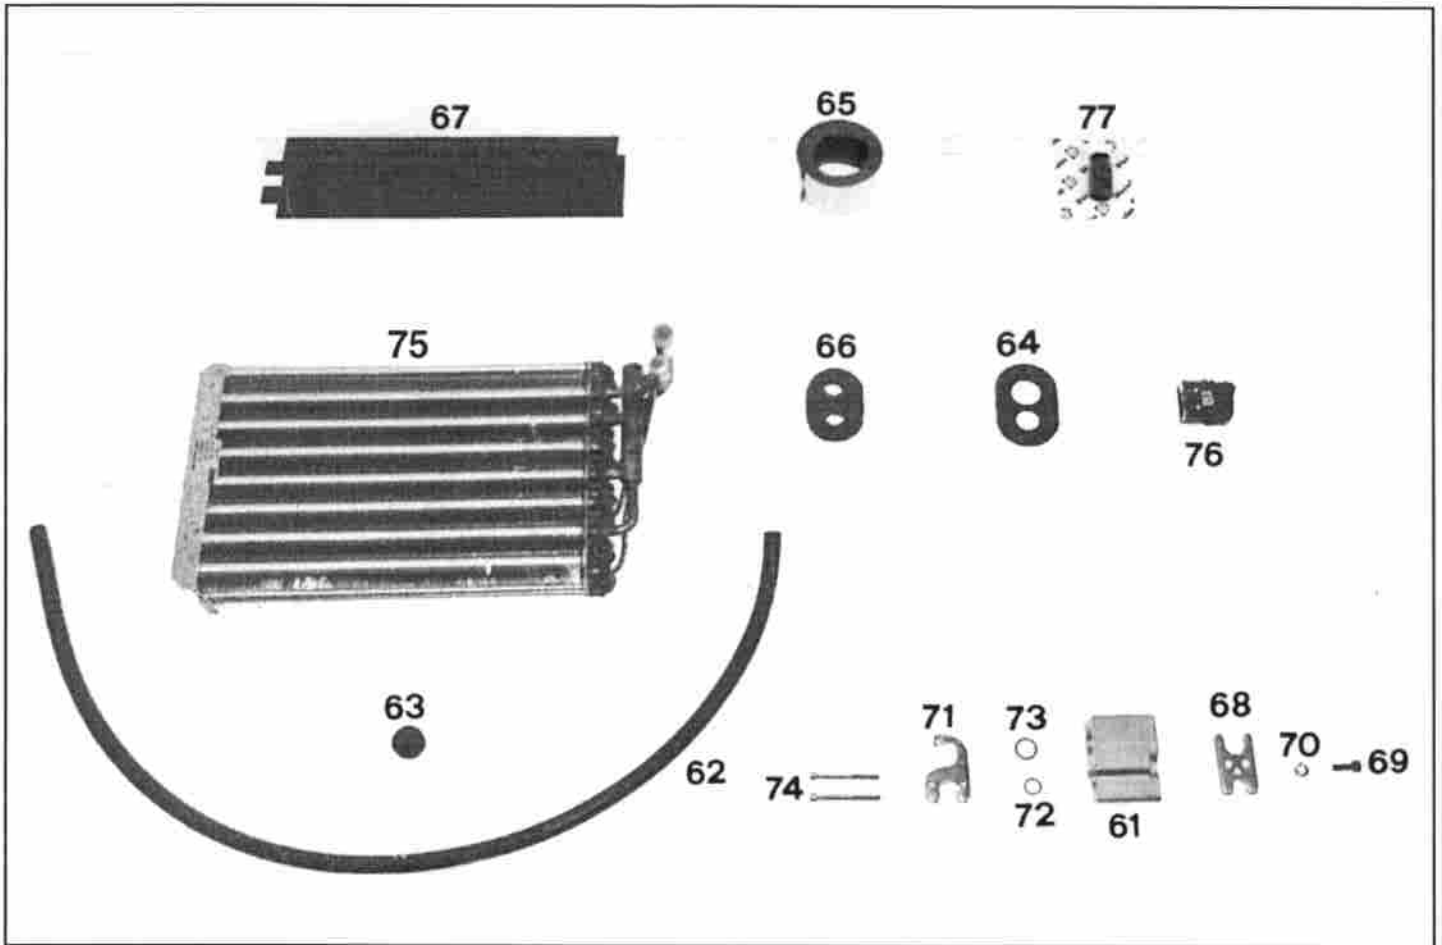

FIG. 3
**ELENCO MATERIALE FORNITO (FIG. 3)
LISTE DU MATERIEL FOURNI (FIG. 3) / LIST OF SUPPLIED MATERIALS (FIG. 3)
VERZEICHNIS DES GELIEFERTEN MATERIALS (ABB. 3) / LISTA MATERIAL ABASTECIDO (FIG. 3)**